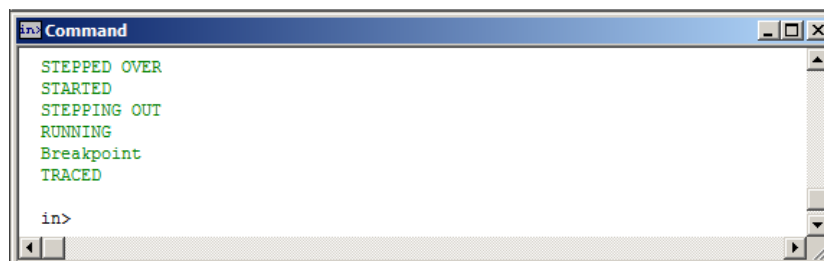

Figure 1.25 True-Time Simulator & Real-Time Debugger - Command window
- Command window – the commands executed by the debugger are prompted here (Figure 1.25).